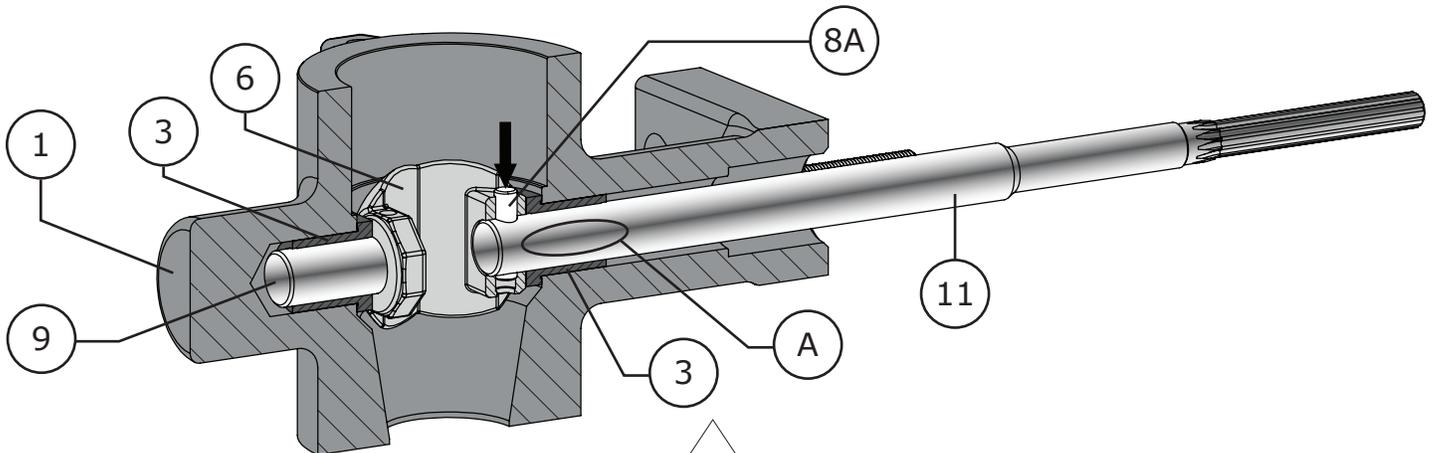
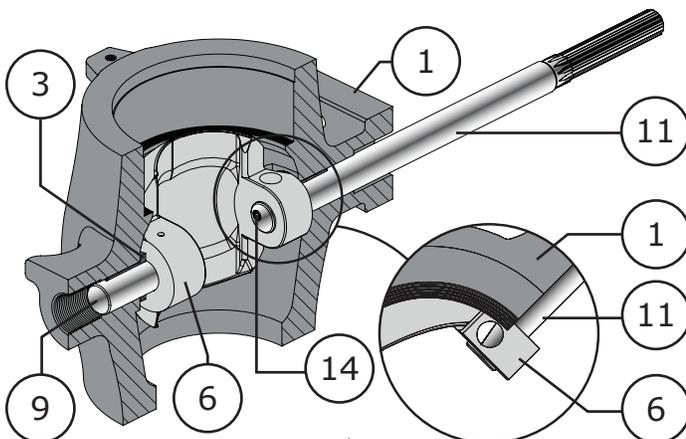

Figure 39 1 to 2 Inch Drive Shaft Installation
Figure 47 3 to 12 Inch Valve Drive Shaft Installation
- 4 Apply Permatex® Nickel Anti-Seize or equivalent (Key A) to the drive shaft (Key 11) and insert the drive shaft in to the body (Key 1) through the inboard bore as shown in Figure 39. Align any locator marks made to the drive shaft and ball during disassembly or refer to Pages 46 and 47 for proper ball/shaft orientation.
- 5 Align the pin holes of the ball (Key 6) and drive shaft (Key 11). Install the shaft connection pin (Key 8A), refer to Figure 39.
- 5 Apply Permatex® Nickel Anti-Seize or equivalent (Key A) to the drive shaft (Key 11) and insert the drive shaft in to the body (Key 1) through the inboard bore as shown in Figure 47 for 3 to 12 inch valves (Figure 39 for 2 inch valves). Align any locator marks made to the drive shaft and ball during disassembly or refer to Pages 46 and 47 for proper ball/shaft orientation.
- 6 Install the shaft key (Key 12) or shaft connection pin (Key 8A, for 2 inch valves) as shown. Refer to Figure 39 for 1 to 2 inch valves. Refer to Figures 47 & 48 for 3 to 12 inch valves.